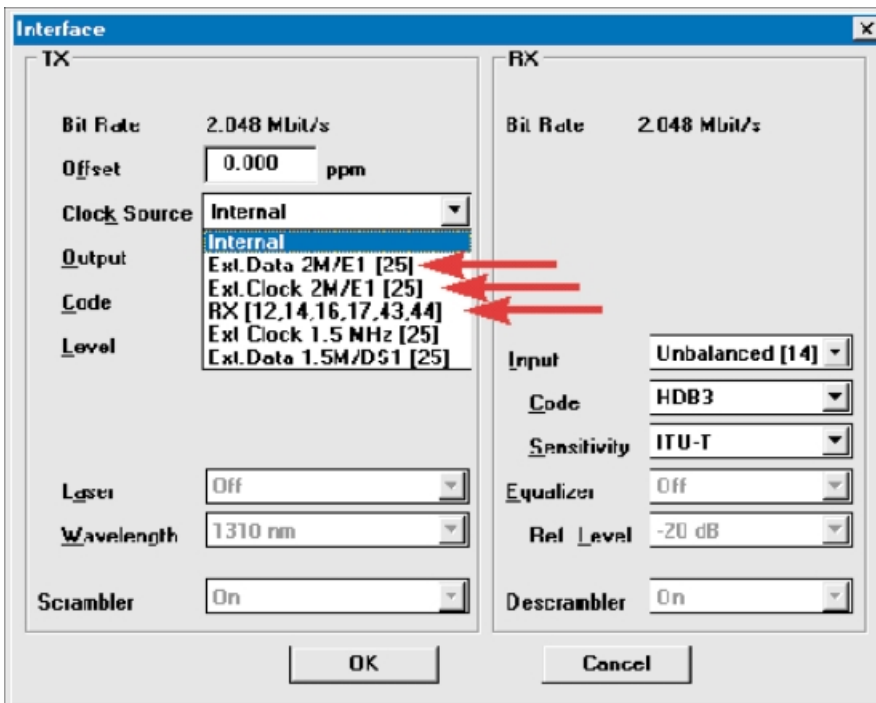

Figure 1: The possible clock sources are shown like this in the *Interface* window.
That is one of the questions that ANT-20 users are always asking. The clock source setting depends, of course, on the type of signal path: Radio link, DWDM, PDH, etc. It should be noted here that the setting always refers to the generator clock of the ANT-20. Figure 1 shows the possible settings, all of which are on the transmit side (TX). The *Internal* setting activates the built-in crystal oscillator. *Ext. Data 2M/E1 [25]* activates socket [25], into which a 2048 kbit/s HDB3 data signal must now be fed. *Ext. Clock 2M/E1 [25]* also activates socket [25], which now